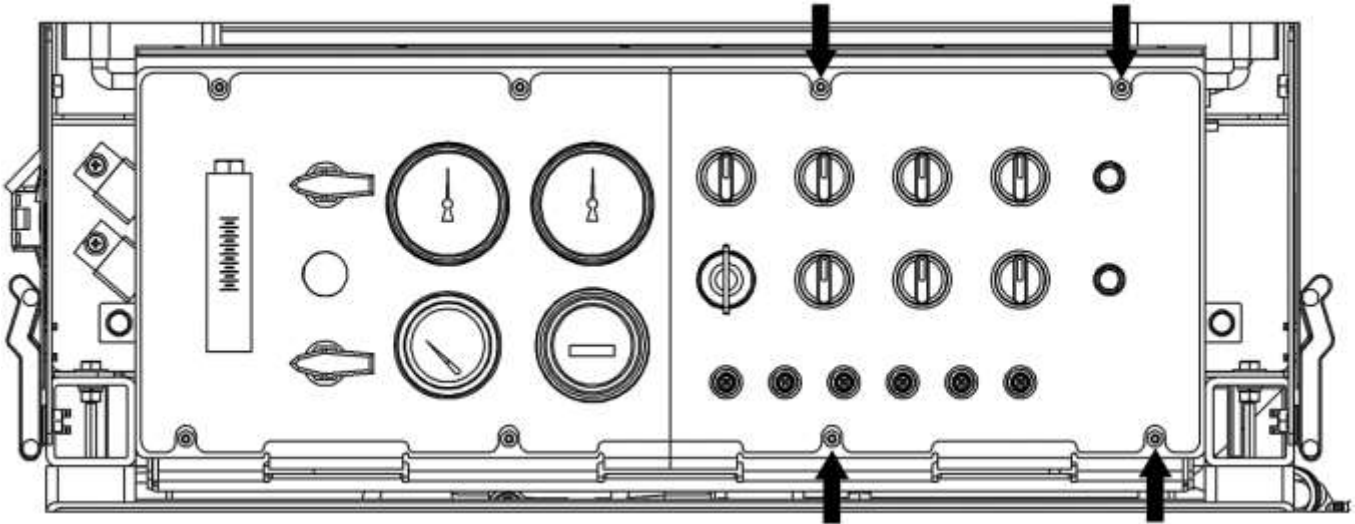

Figure 2 – Remove electrical side panel mounting screws
2. To access the right-side electrical panel, remove the four screws holding the panel to the front of the unit (shown in Figure 2). If more access is required for the gauge/chemical side, remove all eight screws holding both sides of the panel in place.